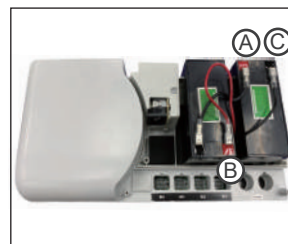

Fig.3
Step 3: Please place the batteries in the direction shown in Fig.3, and then unplug wire (A) from the batteries.
Step 4: After unplugging wires (B) and (C), the batteries can be removed. (Fig.3, 4)